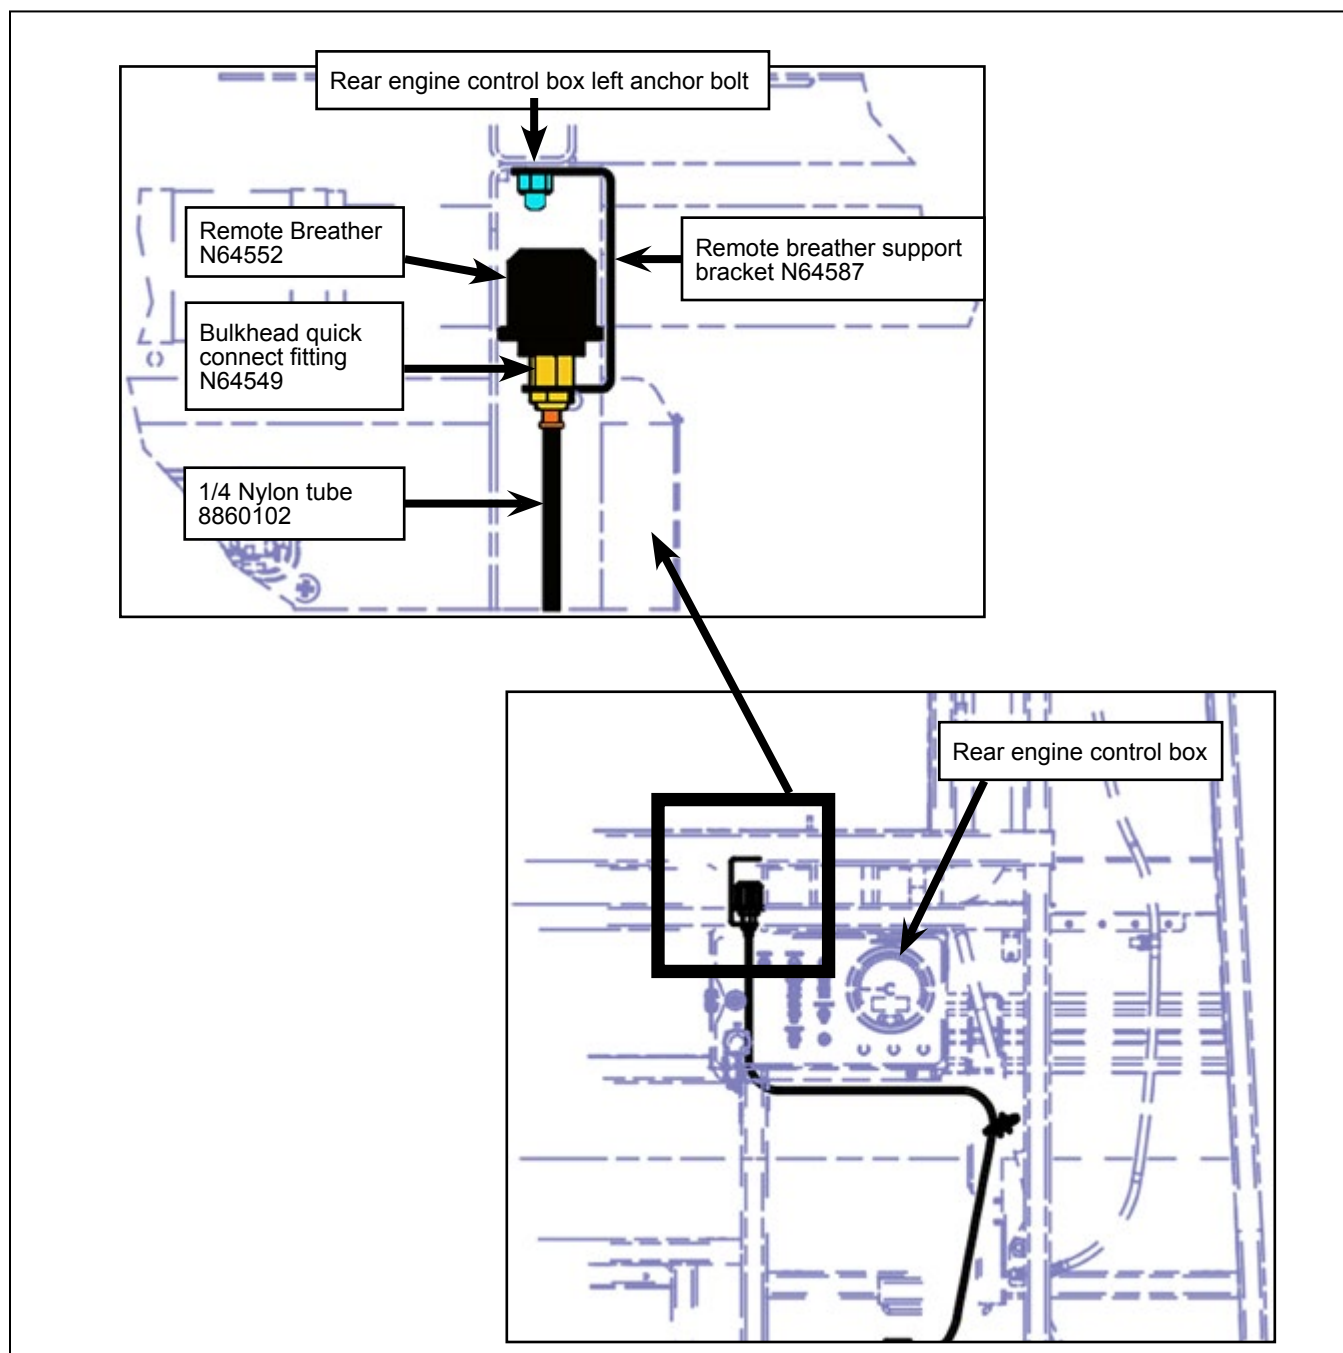

Figure 2 - Remote Breather Installation
- 1.7. Install the bulkhead quick connect fitting N64549 on the remote breather N64552. See Figure 2.
- 1.8. Affix the bulkhead quick connect fitting N64549 on the remote breather support bracket N64587. See Figure 2.
- 1.9. Connect the 1/4" nylon tube 8860102 on the bulkhead quick connect fitting N64549. See Figure 2.
- 1.10. Affix the remote breather support bracket on the rear engine control box left anchor bolt. See Figure 2.